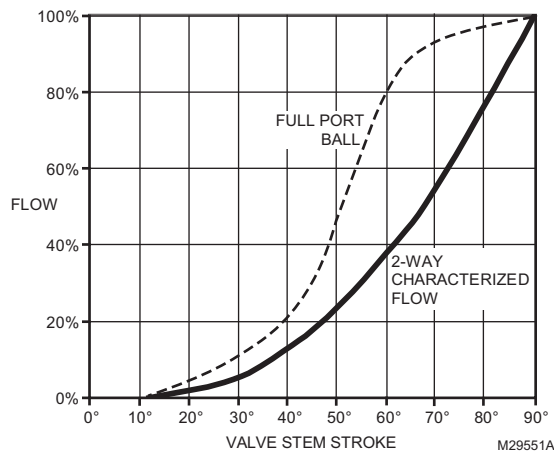

Fig. 32. Typical flow characteristics.
1. With modulating actuator, limit span of control voltage issued by the building automation controller. Valves with flow control inserts have an equal percentage flow characteristic (See Fig. 32). Each 10% reduction in maximum control voltage will result in a 10% reduction in flow.
2. To mechanically limit stroke, set DCA to full open position. Loosen shaft coupling and rotate valve shaft to desired maximum flow position, as confirmed by pressure measurement across coil, using coil manufacturer's data. Retighten shaft coupling. Use Fig. 32 as a guide to setting actuator stroke.